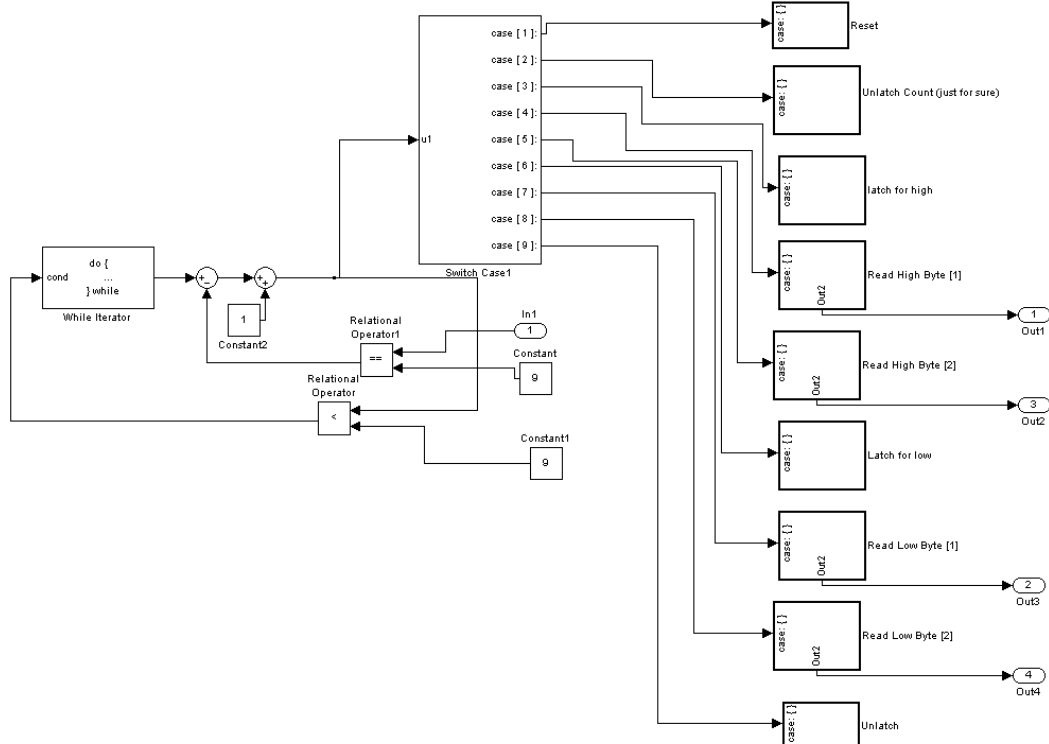

Figure 27 Feedback Encoder Block - Reading Values From Encoders
- 5) set !OE line to high (Figure 27).
- Digital Output or Digital Input blocks are placed in the Action blocks presented in Figure 27.